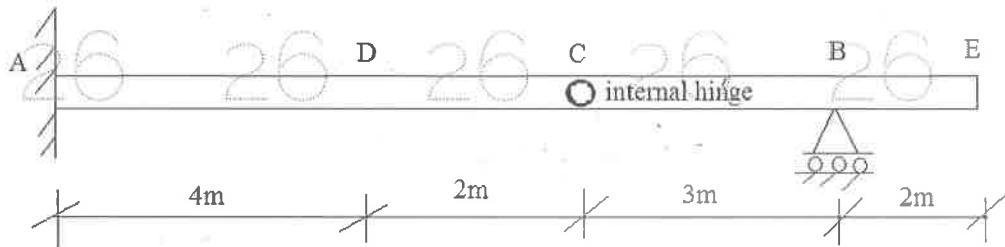

Figure: 8
10. For the beam shown in Figure 8: Draw the ILD for the following: